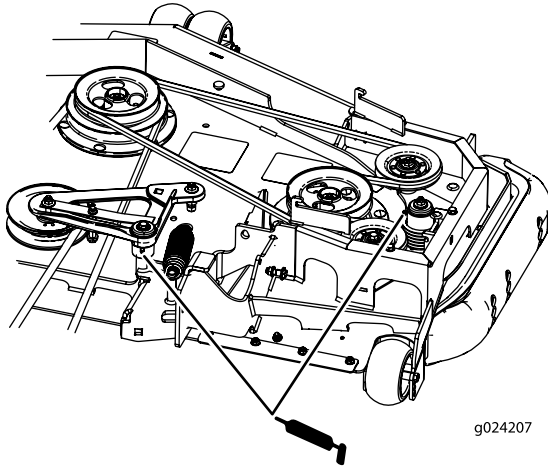

Figure 41
- Grease the deck-belt idler arms (Figure 41).